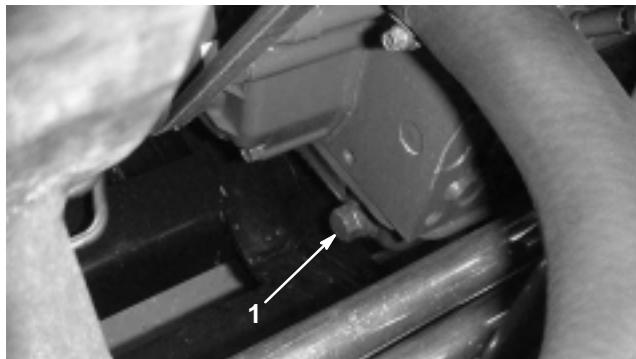

Figure 28
1. Remove the rear drain plug (Fig. 28) and let the oil flow into a drain pan. When the oil stops, install the drain plug.